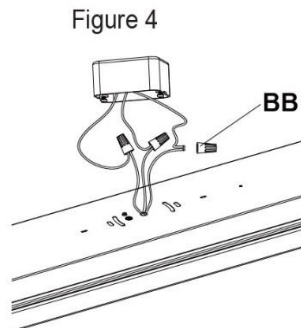

Figure 4
**NOTE:** For proper connection, place the wire nuts (BB) over wires and twist clockwise until tight. (Figure 4)